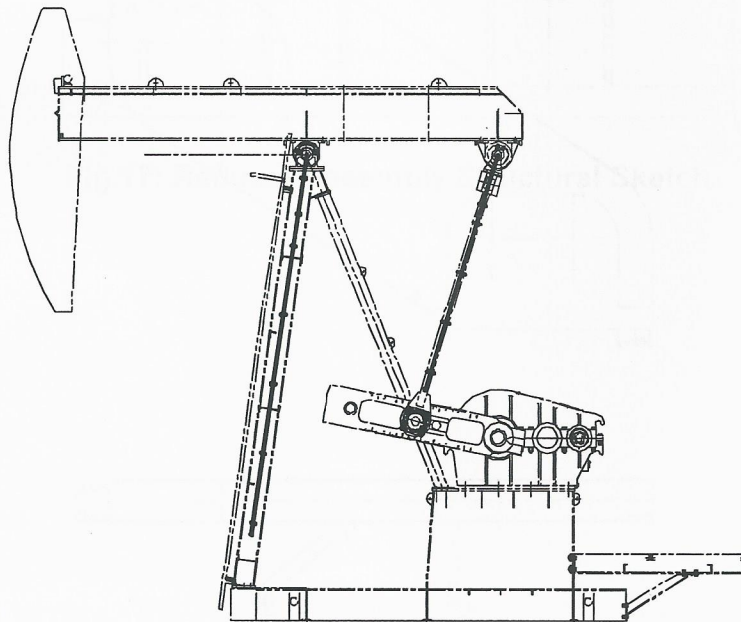

Fig.14: Lubrication Pipeline Structural Sketch
3.2.12 Lubrication Pipeline (Fig.14)
The bigger sheave and the brake are respectively installed on the two ends of driving shaft. Two key seats angulated 90° with each other are milled on two ends of driven shaft, one is connected to the crank with wedge key, the other is used to stand-by. After the pumping units working for a long time, we had better disassemble the crank and then install it to match with the stand-by key seat in order to put the max. load on the less-wearing tooth, which can prolong the running life of reducer gears. See Fig.14